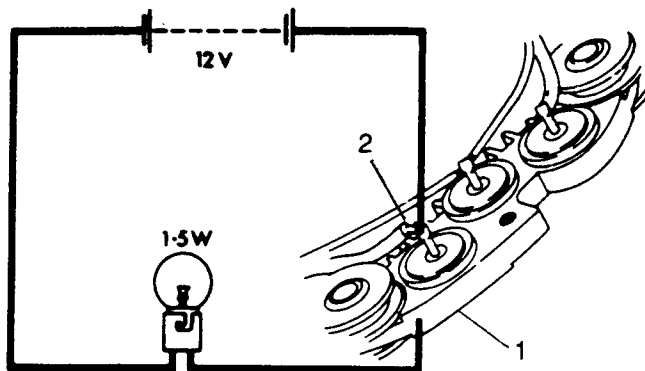

Fig O6.7
- (1) Refer to Fig O6.7. Connect one battery terminal to the heatsink under test (1).
- (2) Connect the other battery terminal in series with the test lamp and each diode pin (2) in turn.
- (3) Reverse connections to heatsink and diode pins. The lamp should light in one direction only. Should the lamp light in both tests, or not light at all the diode is defective and a new rectifier heatsink must be fitted.